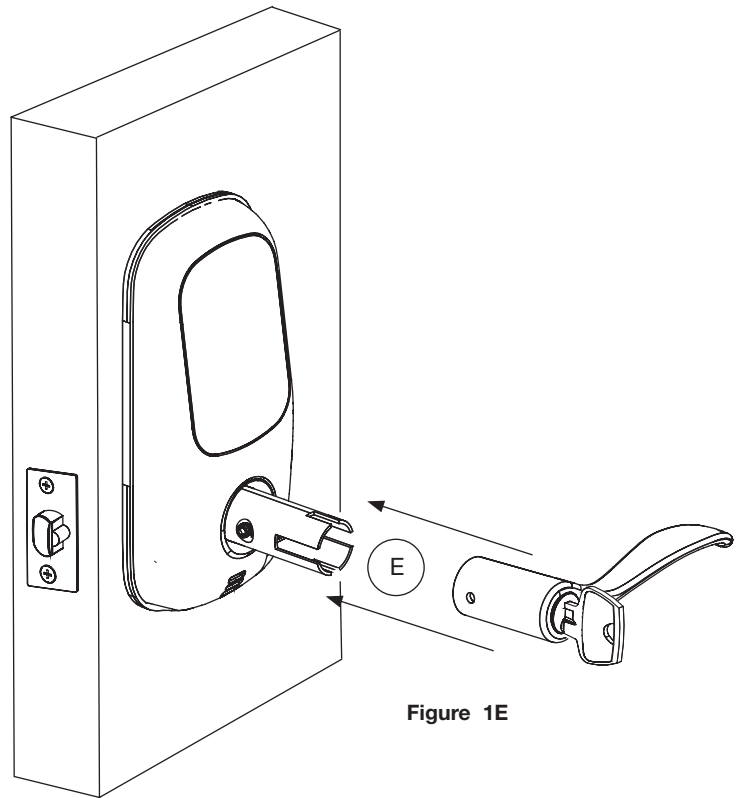

Figure 1E
- E. Push lever handle (with key & cylinder) over shank until hole on handle aligns with set screw in shank (Figure 1E).